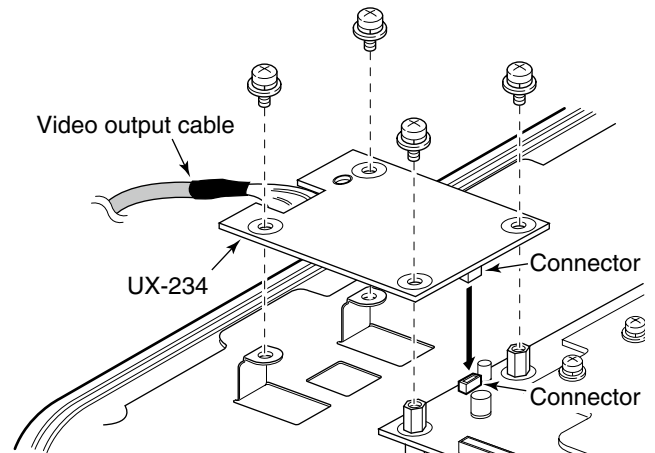

Fig. 4
- ⑥ Install the UX-234 on the display's main board using the four screws supplied with the UX-234. (Fig. 4)